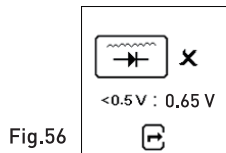

Fig.56
13. If the ripple voltage is above 0.5V then it will display (Fig.56) as below: